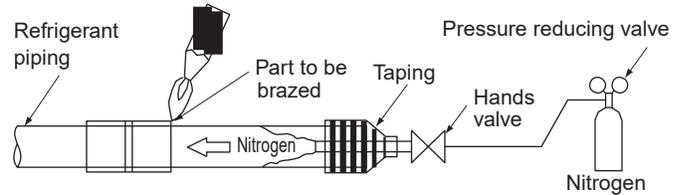

Fig. 7
- Perform nitrogen substitution or charge the refrigerant piping with nitrogen (see NOTE 1) in the case of refrigerant piping brazing (see NOTE 2). Then perform the flare connection of the indoor unit. (Refer to Fig. 7)